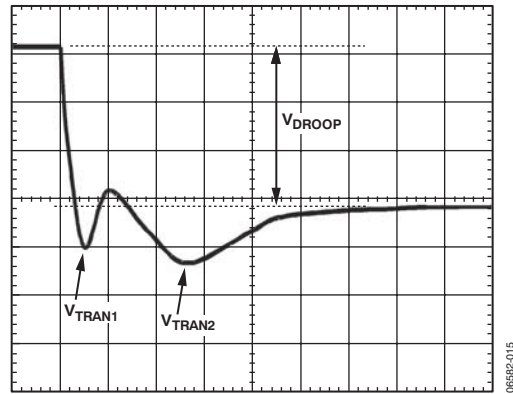

Figure 16. Transient Setting Waveform, Load Step
- Users should see a waveform that is similar to the one in Figure 16. Use the horizontal cursors to measure  $V_{ACDRP}$  and  $V_{DCDRP}$  as shown. Do not measure the undershoot or overshoot that occurs immediately after the step.
- With dynamic load still set at the maximum step size, expand the scope time scale to see  $2 \mu\text{s}/\text{div}$  to  $5 \mu\text{s}/\text{div}$ . A waveform that has two overshoots and one minor undershoot can result (see Figure 16). Here,  $V_{DROOP}$  is the final desired value.